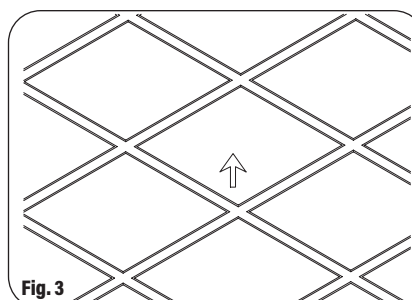

Fig. 3
4. Remove the ceiling plate, then arrange the wire. (Fig. 3)